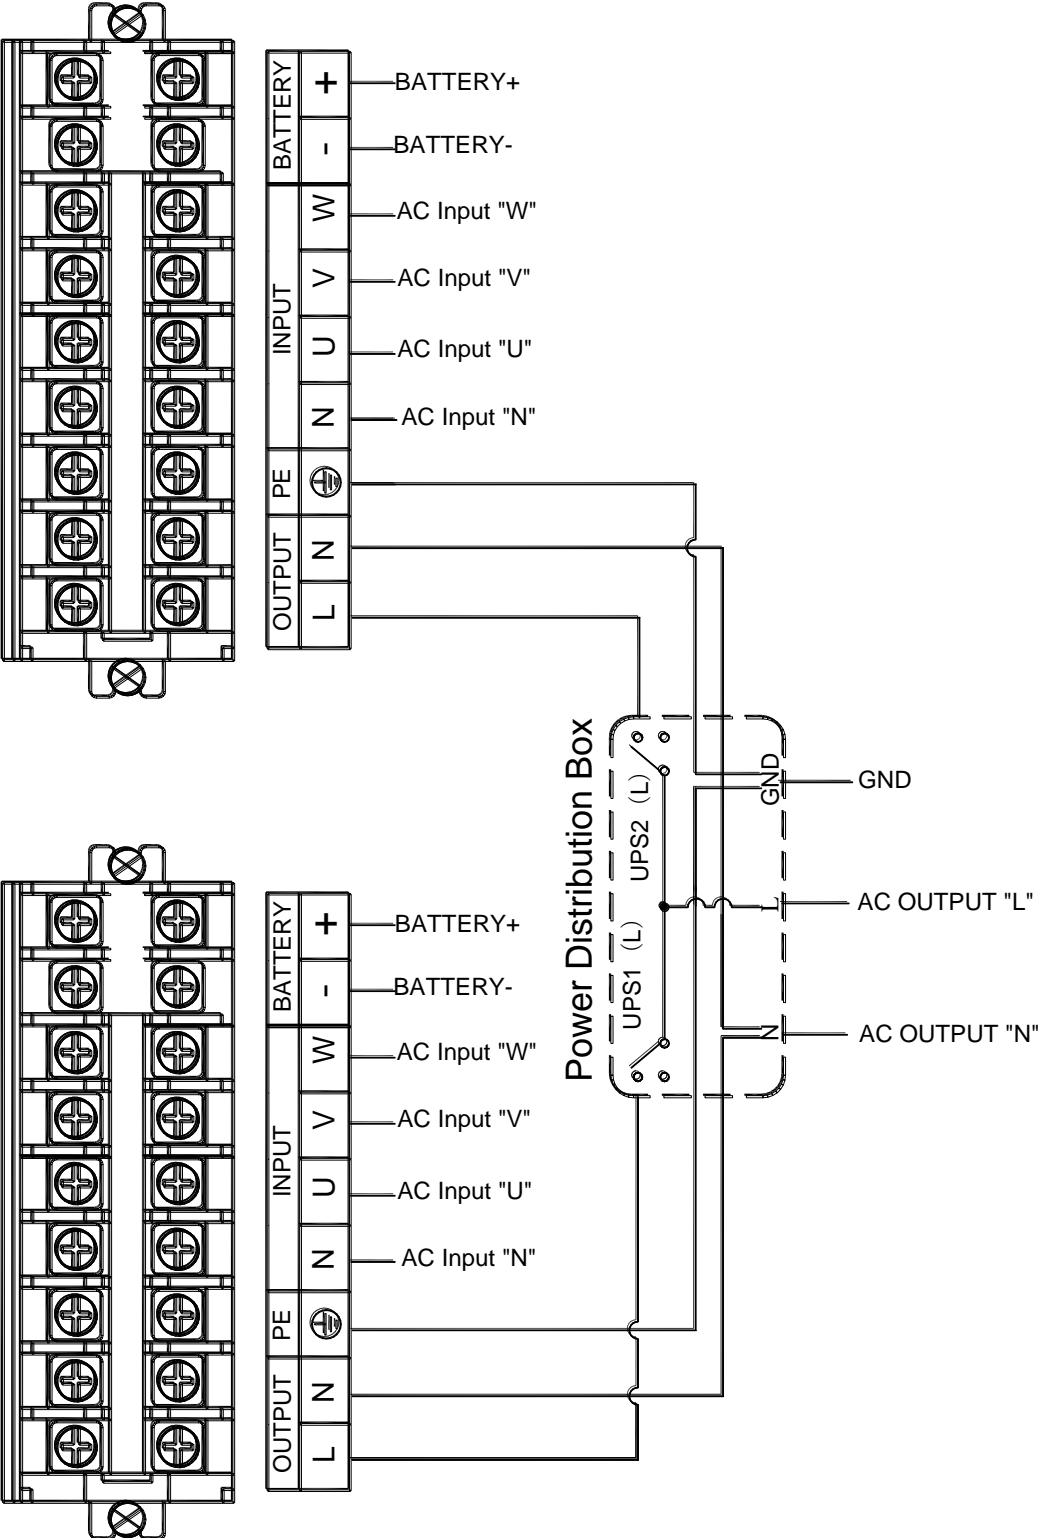

Fig 4.9-4 Parallel connection procedures for KR/B3110 (S)
- 4. Parallel Connection for KR/B 3110(S) is demonstrated as in below figure 4.9-4.